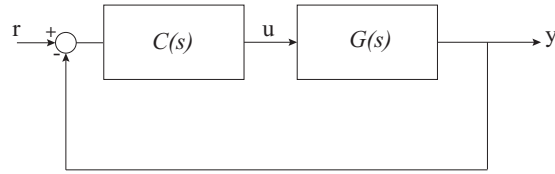

Figure 1: Closed-Loop Control System
**Problem 1** (6 points). Consider the feedback control system shown in Fig. 1 where